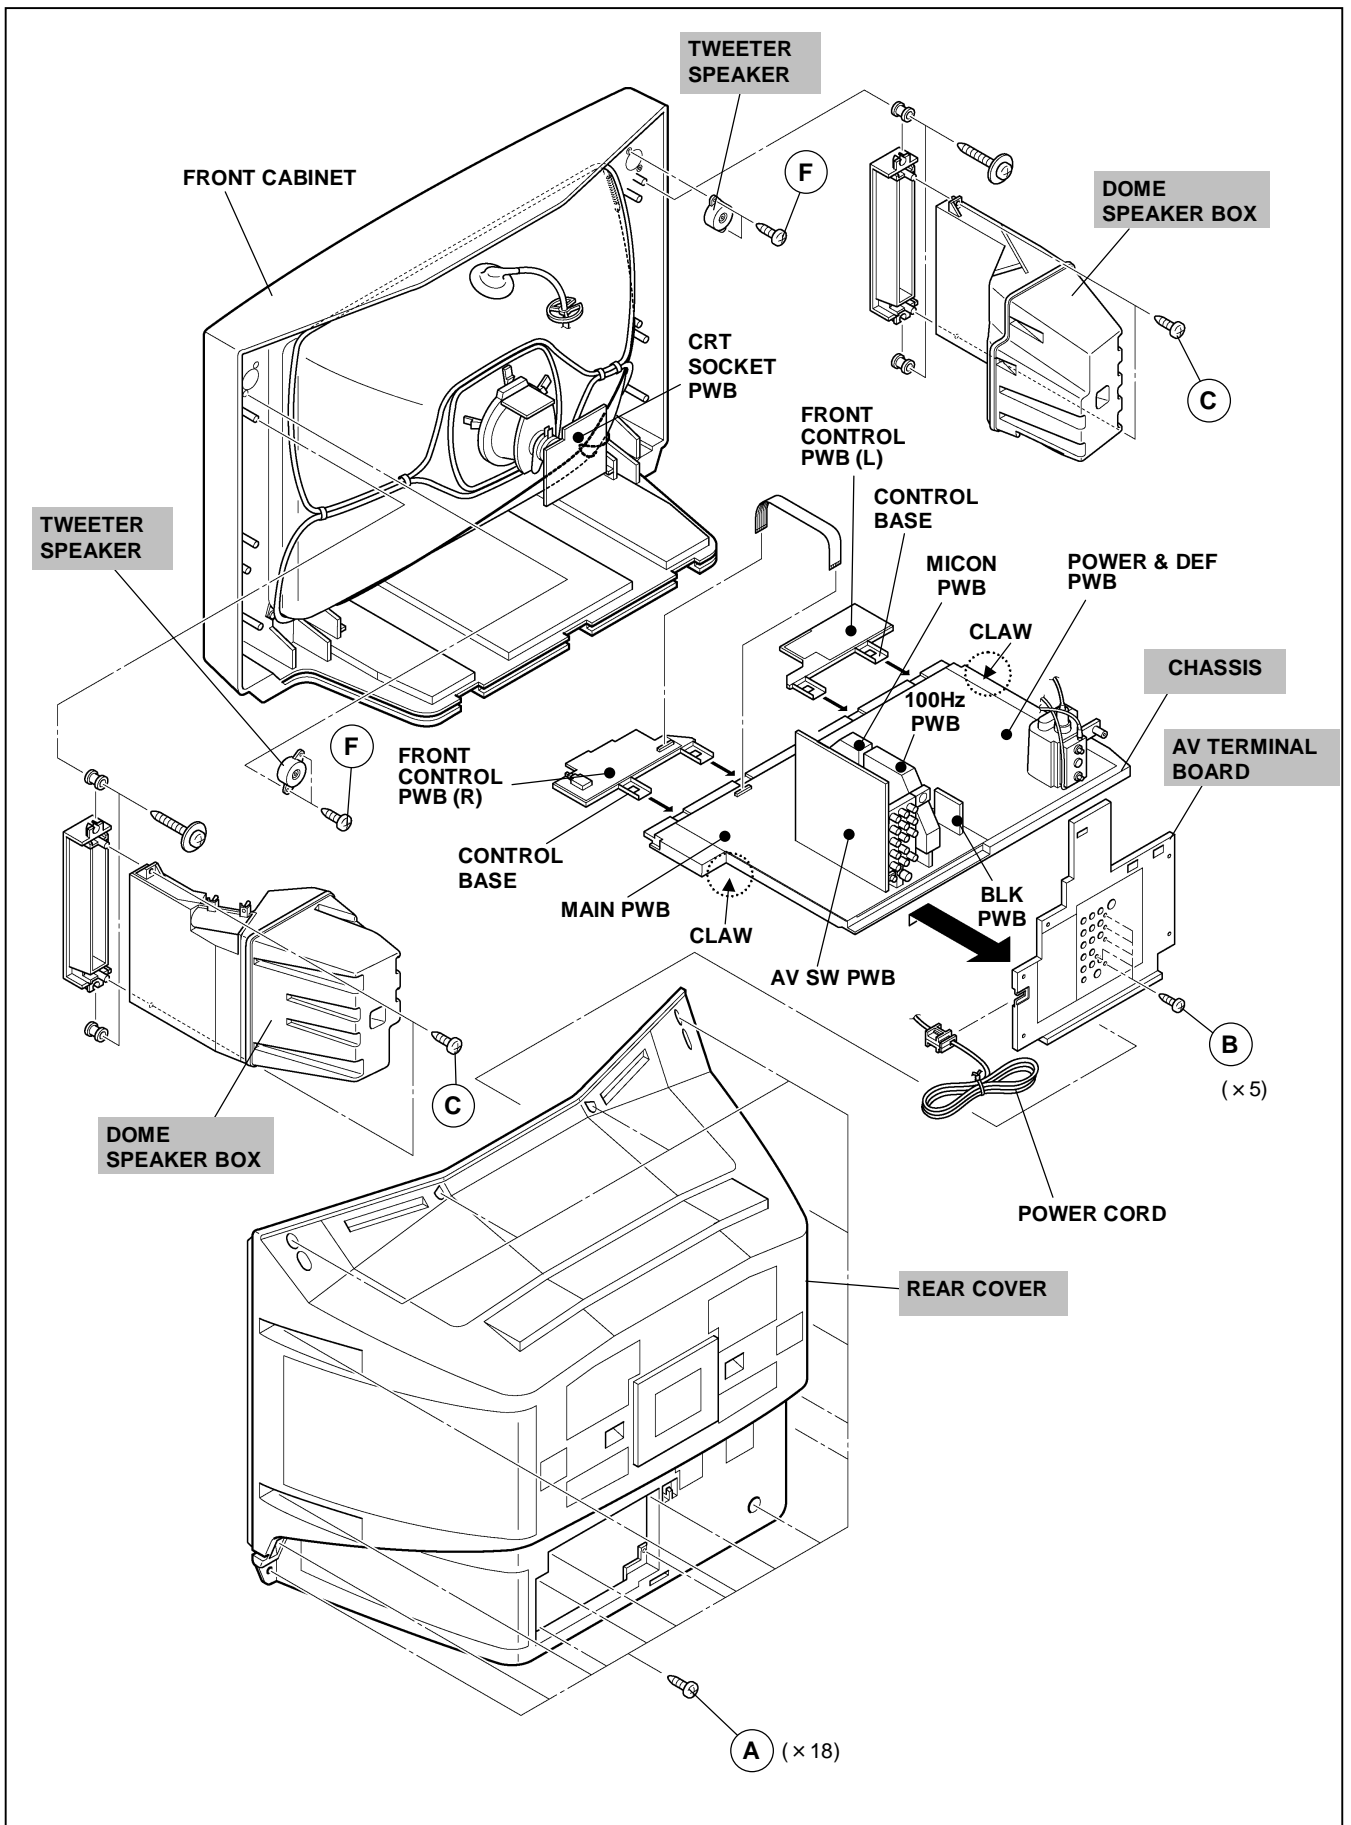

Fig. 1
1. As shown in Fig. 1, remove the 2 screws marked **(F)**, then pull out the tweeter speaker to remove it.